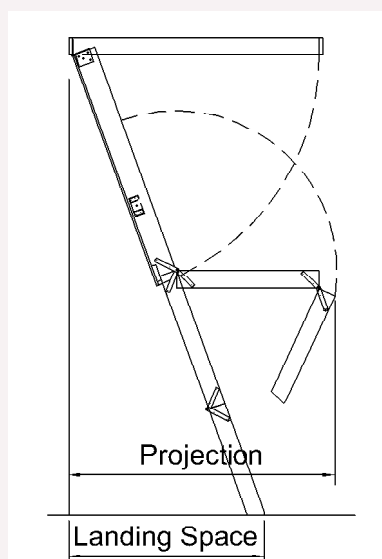

fig 1
4. Allowance must be made for the operation of the stairs, as they require a greater space to open than indicated by the opening in the ceiling (figure 1). *All dimensions in mm.*